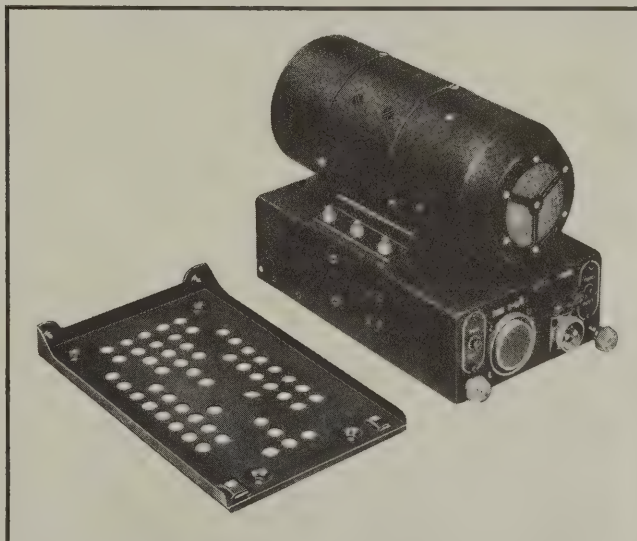

Figure 2-9—Dynamotor Unit DY-11/ART-13 (Navy Type -23333 Power Unit, with Dynamotor -21931)—with Mounting Plate MT 164/ART-13
(1) Safety wire Dynamotor Unit DY-11/ART-13, DY-12/ART-13, or DY-12A/ART-13 by wiring the two locking knobs together. See figure 2-9.